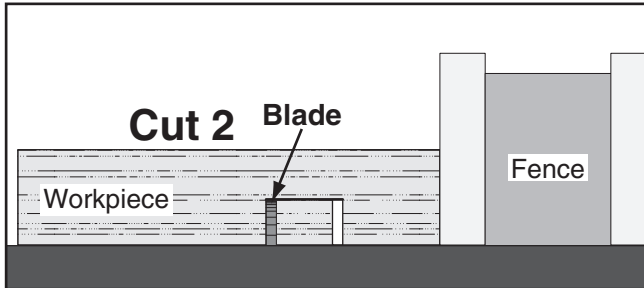

Figure 72. Second cut for a single blade dado.
7. Repeat the cutting operation on the other side of the dado channel, as in **Figure 72**.